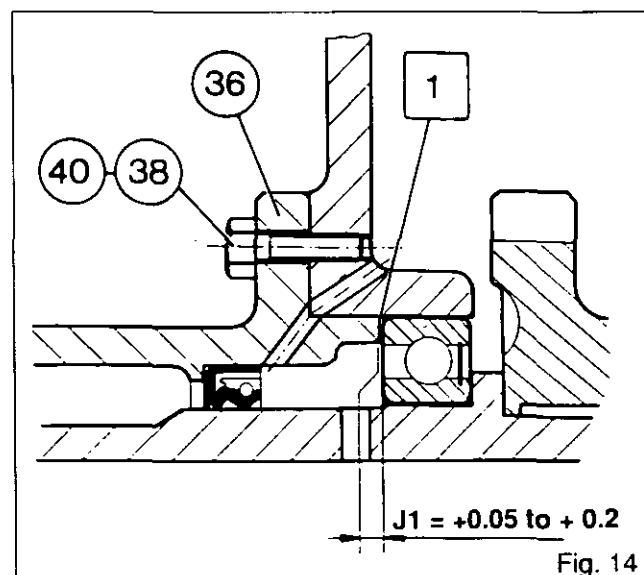

Fig. 14
41. Refit circlip (25) (units with speedshift).
42. Fit spacer (36) (units without speedshift) (Fig. 14). Tighten bolt (38) to a torque of 25-30 Nm. Tighten bolts (40) to a torque of 45-60 Nm.
- units without speedshift (Fig.14).